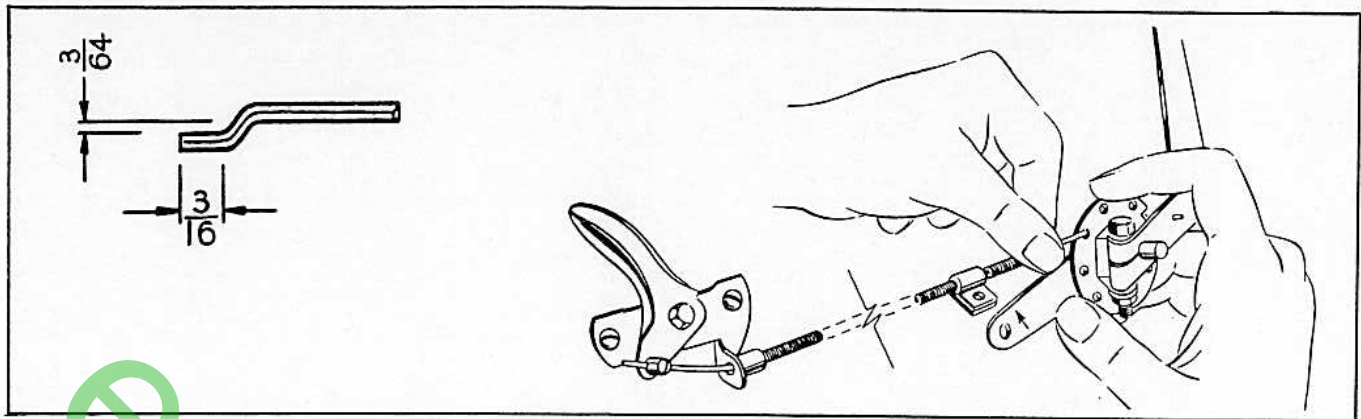

FIGURE 5-3 -- INSTALLING THROTTLE - K91, K141, K161, K181
- a. Bend end of throttle wire as shown in Figure 5-3.